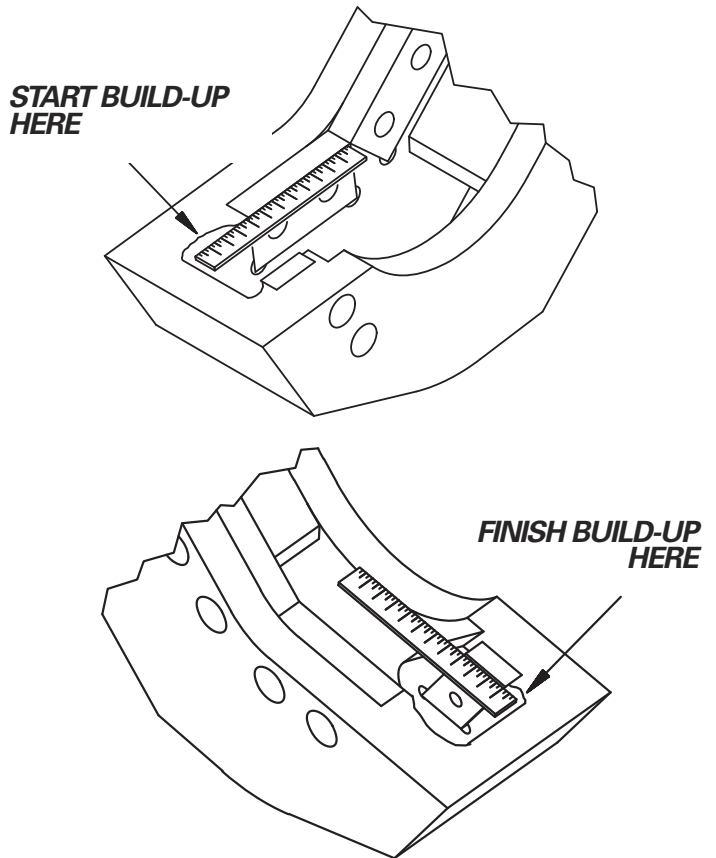
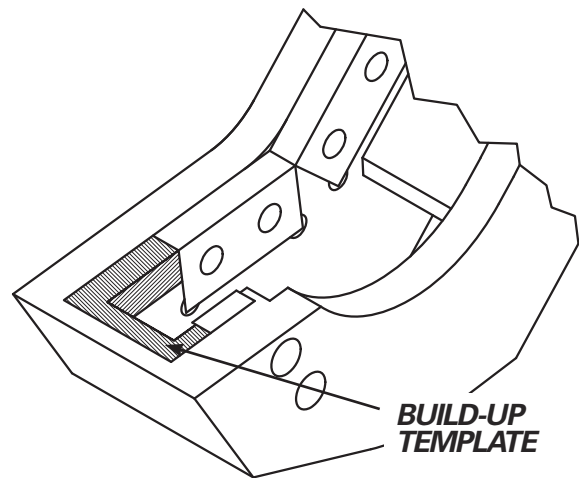

FIGURE 5-10
FIGURE 5-11
1. Place the shear in a horizontal position and block it up about 18" high, or preferred working height. Use a straight edge on the inside of the shear blades and on the guide blade (see figure 5-10) or a the lower profile template supplied by LaBounty (see figure 5-11) to determine how much build-up and hard surfacing is required .
5. For AWS E7018 build-up, start inside the lower in front of the shear blade (see first figure 5-10), make single passes side by side until area is covered. Repeat the process on the guide blade side (see second figure 5-10) and inside the nose plate. Peen each pass.